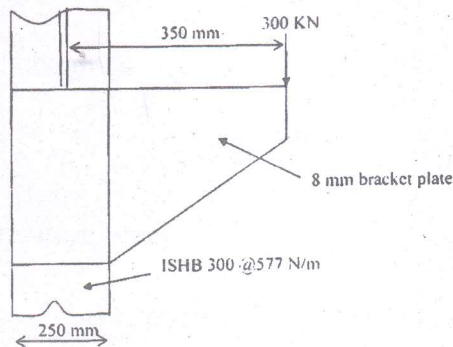

Fig. 2
12. A bracket is bolted to the flange of a column as shown in Fig. 2, using 8 mm thick bracket plate. Using M20 bolts of grade 4.6 design the connection.